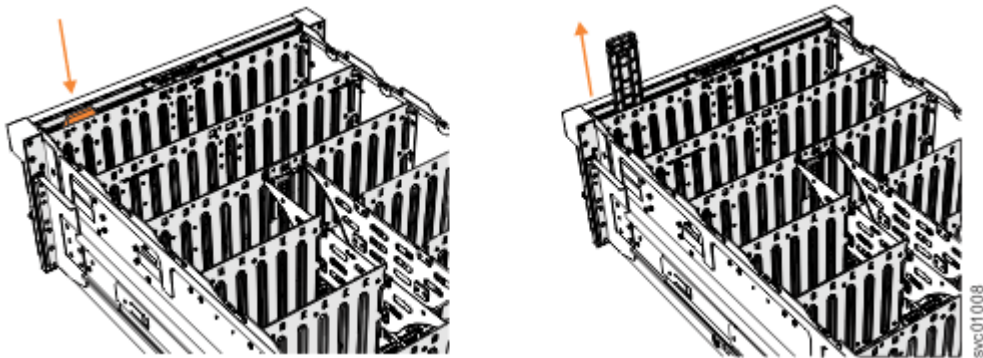

Figure 148. Removing the display panel assembly
3. Press the release tab at the top of the display panel assembly, as shown in Figure 148 on page 198.